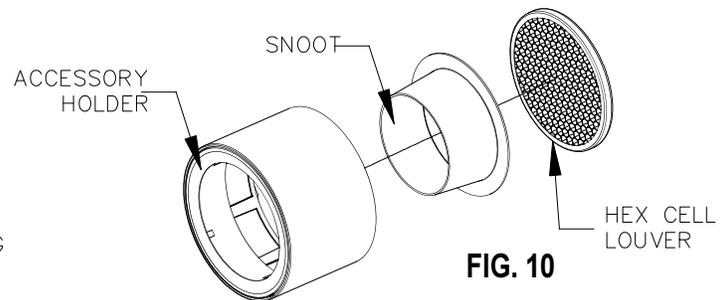

FIG. 10
2. Place accessories into the FRONT HOUSING through the back as shown in (FIG. 10).